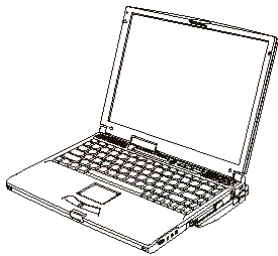

Figure 5-3 Notebook Docked in Detachable Bay
6. Set the combined notebook system down on the adjustment feet and turn it around to face you. (See Figure 5-3.)